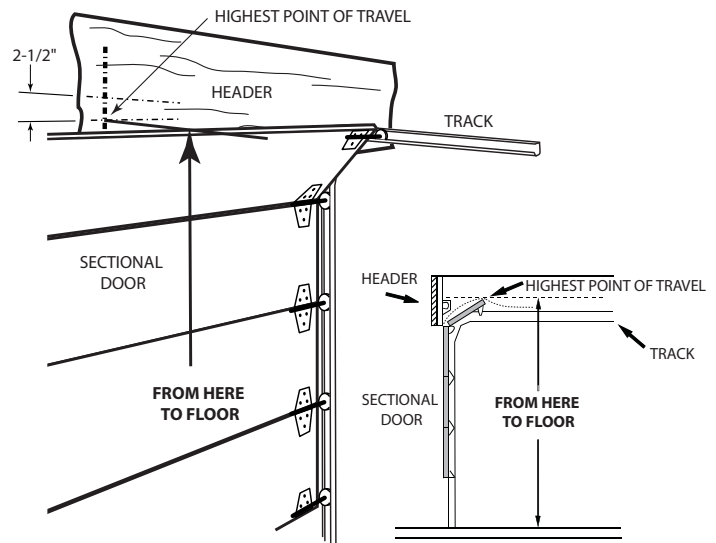

FIG. 2-2 Finding highest point of travel
- Raise garage door until **top edge** of door reaches its maximum height (**Fig. 2-2**).
- Measure height from top edge of door to floor (**Fig. 2-2**).